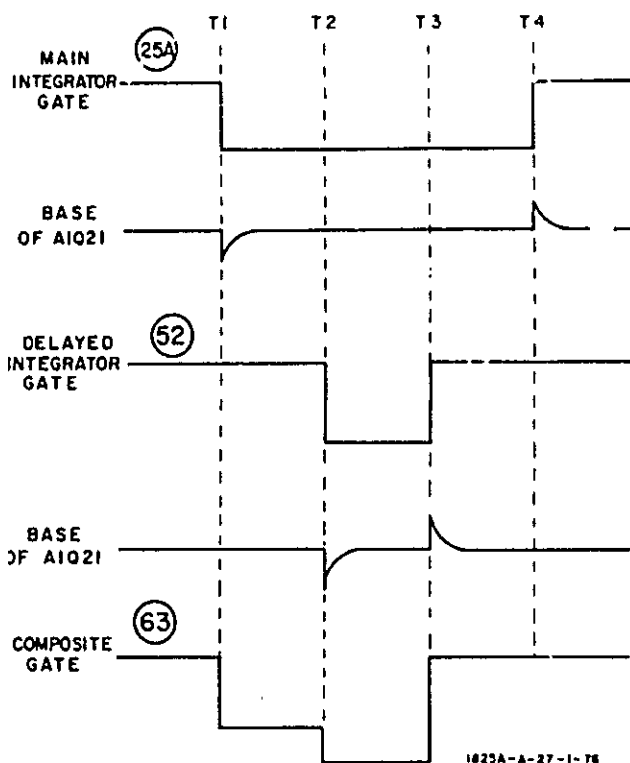

Figure 4-3. Sequence of Events, Mixed Mode Gate
4-90 In mixed mode, both A1Q19 and A1Q23 are activated by application of  $-12.6$  volts on lines (64) and (65). The sequence of events for mixed modes is illustrated in figure 4-3. At time  $t_1$ , the main integrator gate on line (25A) is applied to the base of A1Q19, enabling the Schmitt trigger. The leading edge of the main integrator gate pulse is differentiated in the emitter circuit of A1Q23 and applied to the base of A1Q21, causing the Schmitt trigger to change states. The composite gate falls and the CRT turns on.